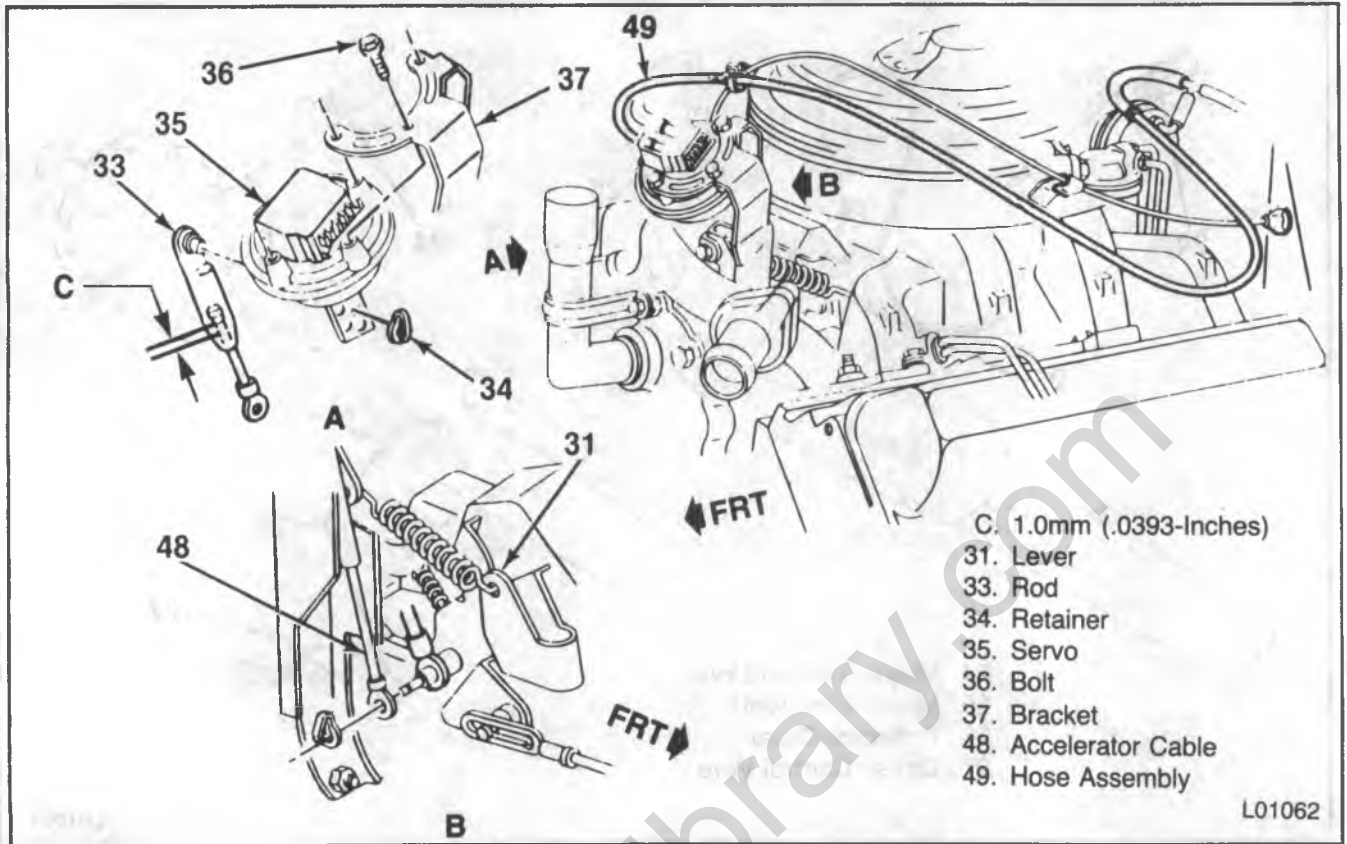

Figure 21 — Servo Mounting (R/V 6.2L)
- Position pin on rod (33) in hole closest to the servo (35) that allows for adjustment C (figure 21).